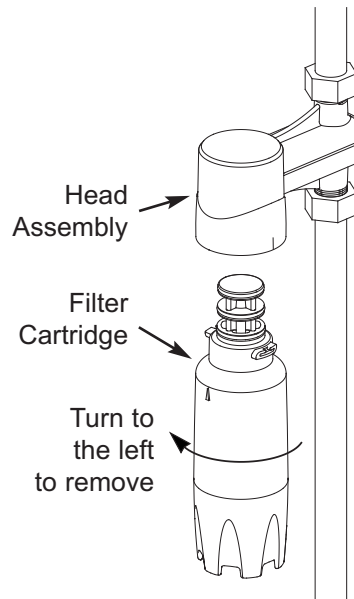

FIG. 2
2. Turn the filter cartridge to the left to remove from the head assembly (See Fig. 2). A small amount of water will be discharged from the head assembly when removing the cartridge.